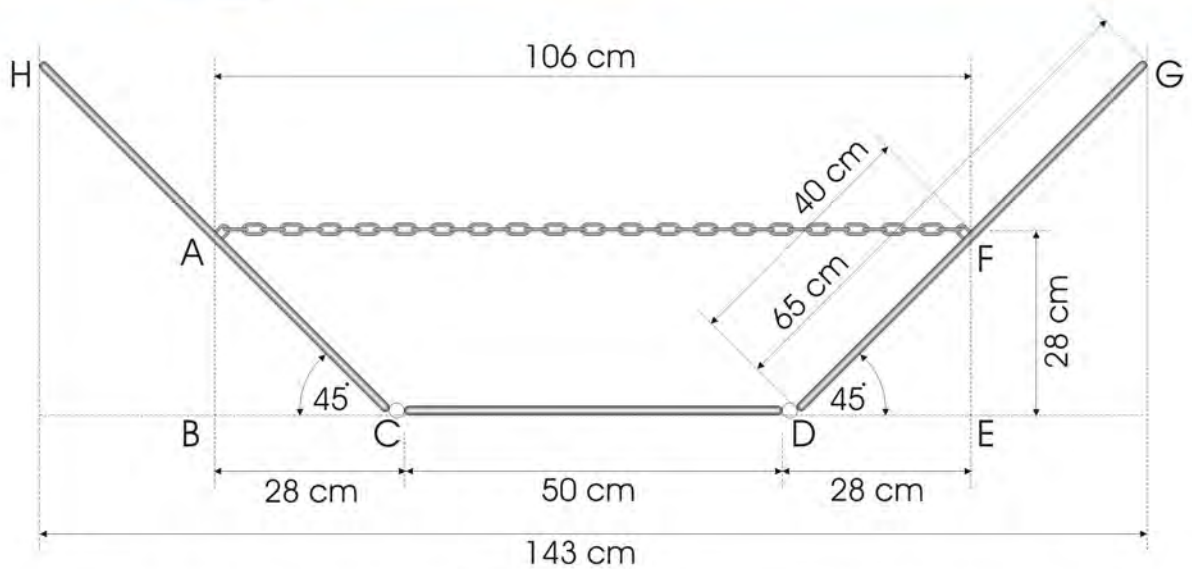

Figure 11: Side view of the completed Semi-Curved Rigid Sorting Grid JTED.
Attach two 106 cm lengths of chain to the front part (A) and back part (C). This will result in these parts being at an angle of 45° (see figure 11 and 12).